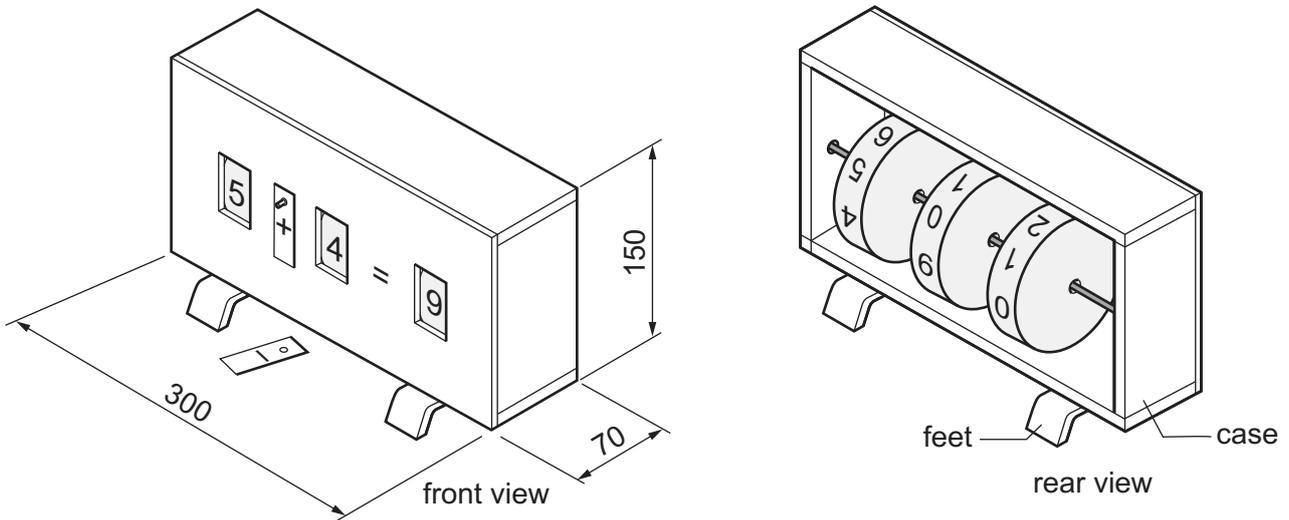

Fig. 11.1
- 11 Fig. 11.1 shows views of an incomplete design for a teaching aid that could be used to teach children addition and subtraction. The case is made from MDF and the feet are made from aluminium.